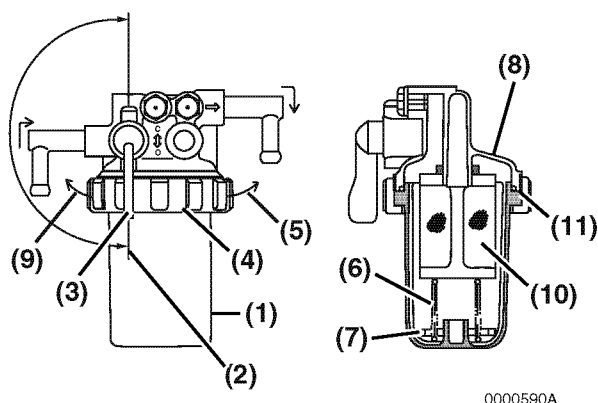

Figure 7
1. Position an approved container under the fuel filter / water separator (**Figure 7, (1)**) to collect the contaminants.
2. Close (**Figure 7, (2)**) the fuel cock (**Figure 7, (3)**).
3. Turn the retaining ring (**Figure 7, (4)**) to the left (**Figure 7, (9)**).
4. Carefully remove the cup (**Figure 7, (1)**). Remove the retaining spring (**Figure 7, (6)**) and float (**Figure 7, (7)**) from the cup. Pour the fuel into an approved container and dispose of waste properly. Hold the bottom of the cup with a shop towel to prevent the fuel from dripping. Wipe up any spills immediately.
6. Inspect the condition of the mesh filter (**Figure 7, (10)**). Clean the mesh filter if necessary.
7. Inspect the condition of the O-ring (**Figure 7, (11)**). Replace the O-ring if necessary.
8. Put the float (**Figure 7, (7)**) and retaining spring (**Figure 7, (6)**) inside the cup.
9. Reinstall the cup to the mounting flange (**Figure 7, (8)**) and turn the retaining ring (**Figure 7, (4)**) to the right (**Figure 7, (5)**). hand-tighten only.
10. Open the fuel cock (**Figure 7, (3)**).